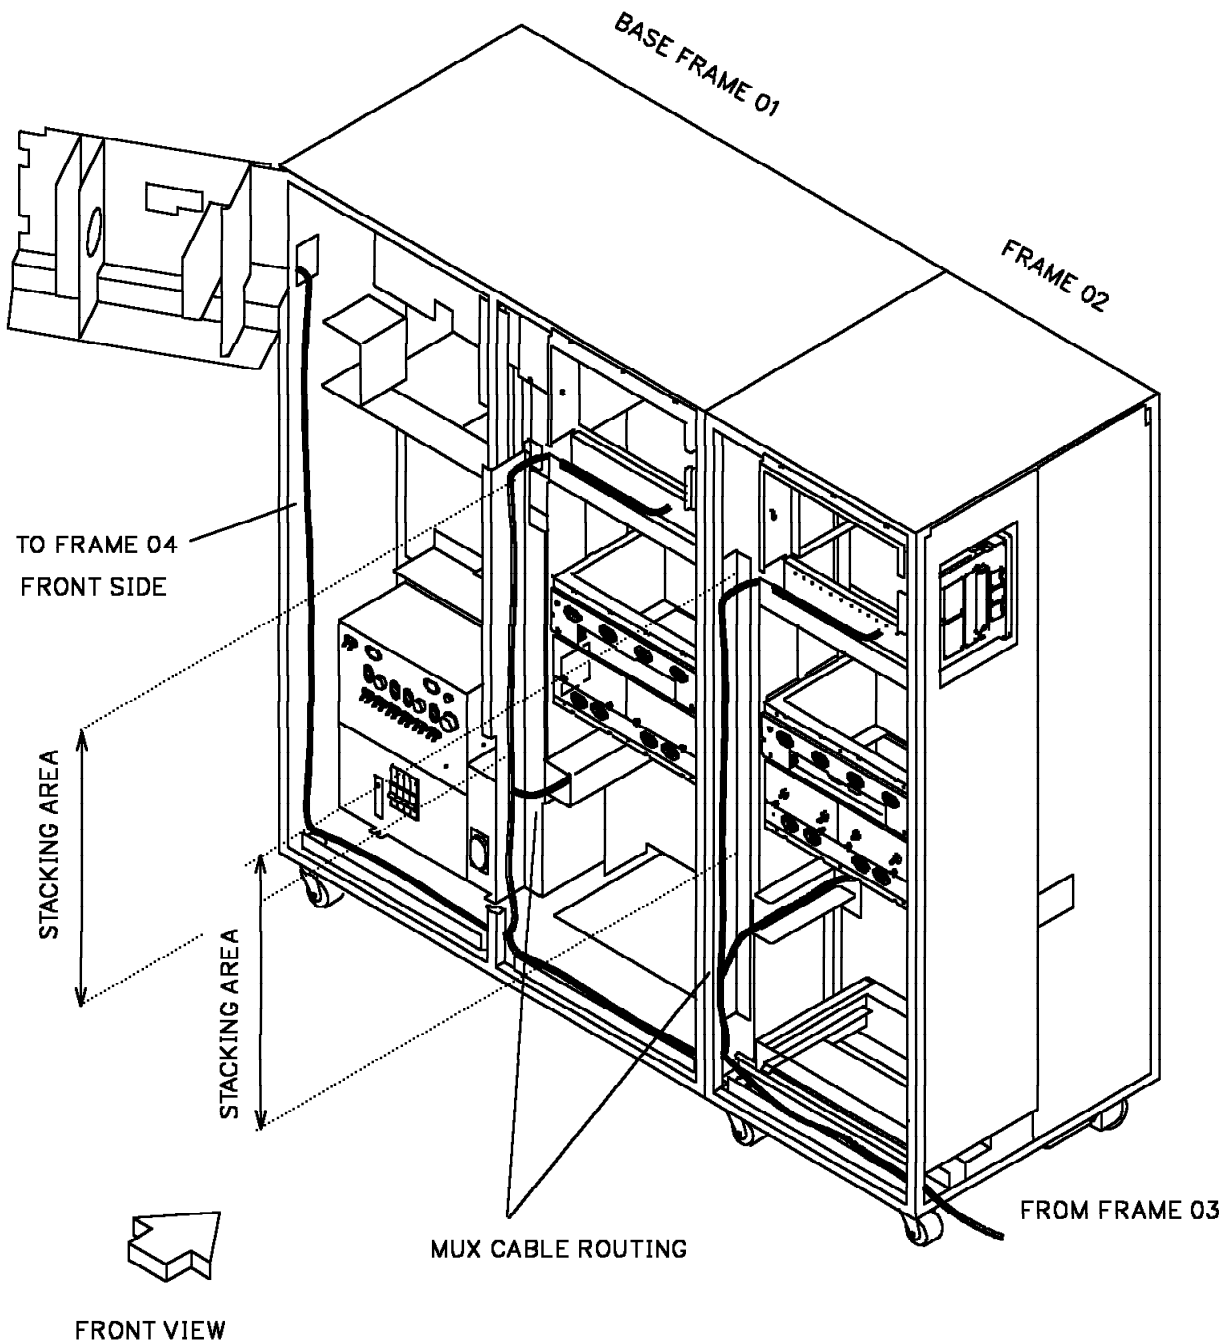
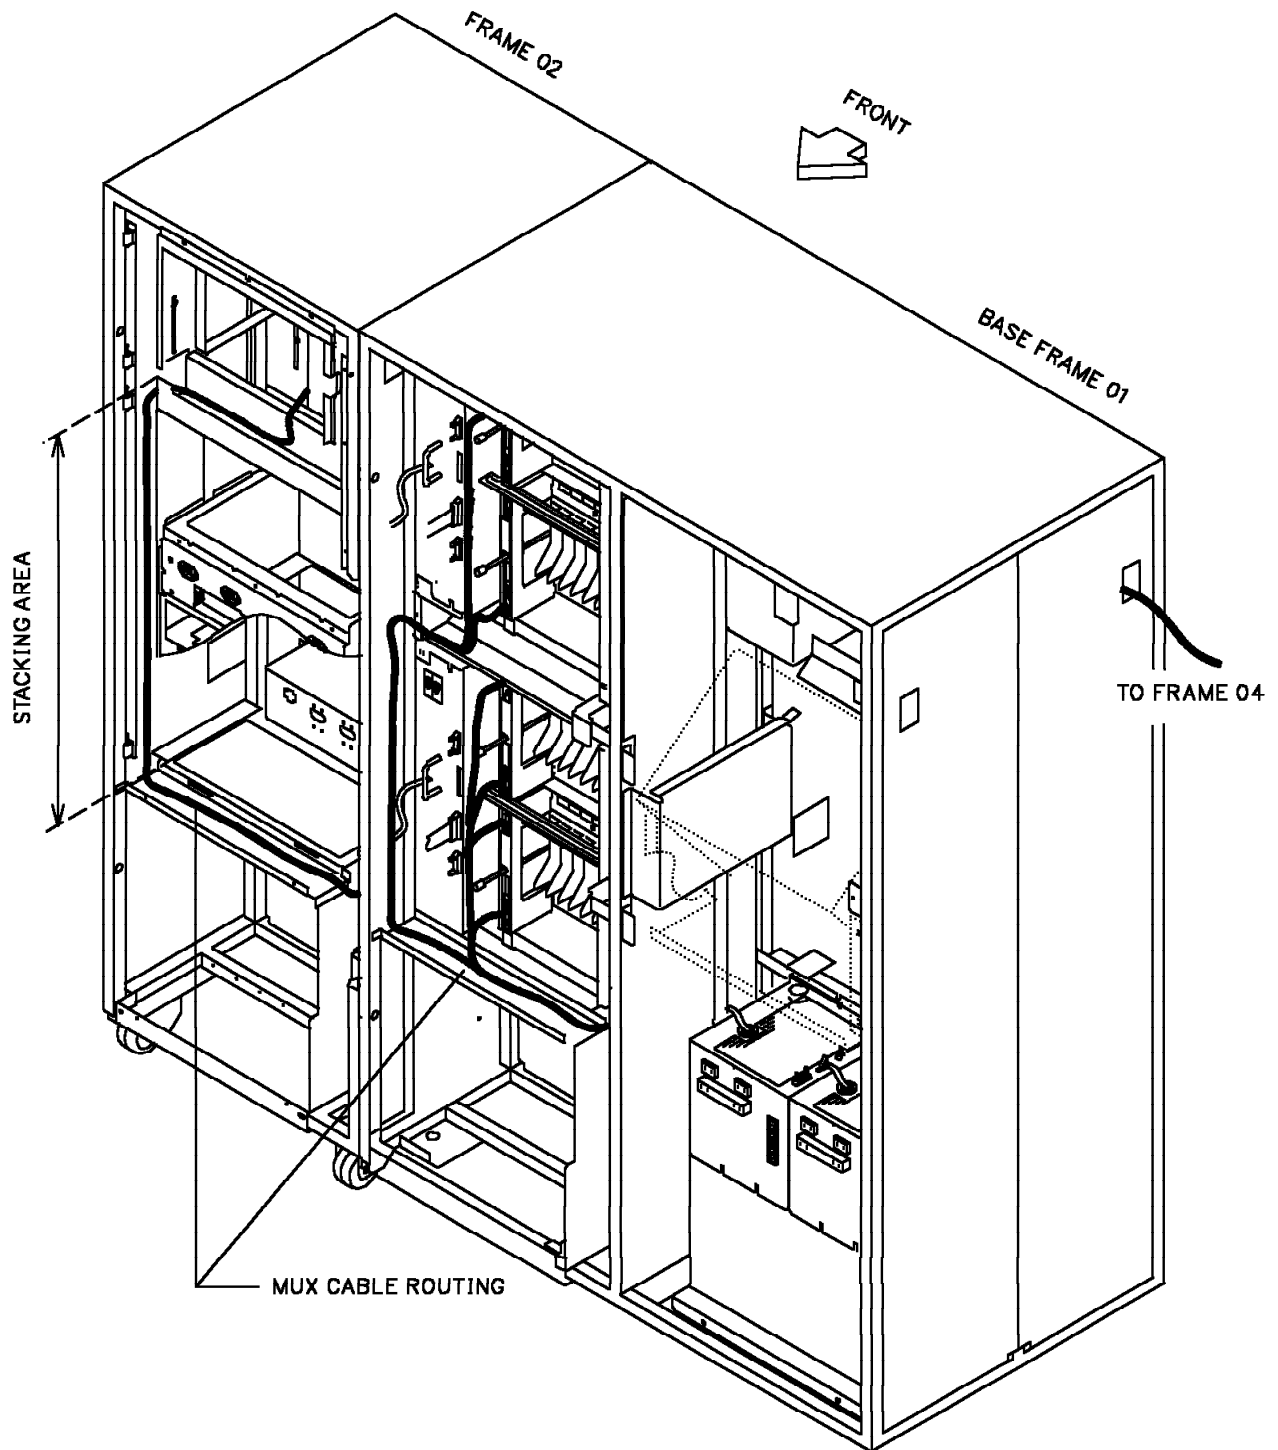

Figure 7-7. MUX Cable Path from the 3746-A Units to the 3745 (Front View)
Figure 7-8. MUX Cable Path from the 3746-A Units to the 3745 (Rear View)
The MUX cables are stacked in the 3745/3746-A frames. For stacking area locations, see Figure 7-7 on page 7-8 and Figure 7-8 on page 7-9.
- Figure 7-7 on page 7-8 (front) and Figure 7-8 on page 7-9 (rear), which show the MUX cable routing between the 3745 and the 3746-A units.
Step 9. \_\_\_\_ Secure the MUX cables with ties (use spare ties P/N 6846576 supplied in the shipping group to attach cables properly). If necessary, stack the remaining cable length in the base/adaptor frame stacking areas (see Figure 7-7 on page 7-8 and Figure 7-8 on page 7-9 for stacking area locations).